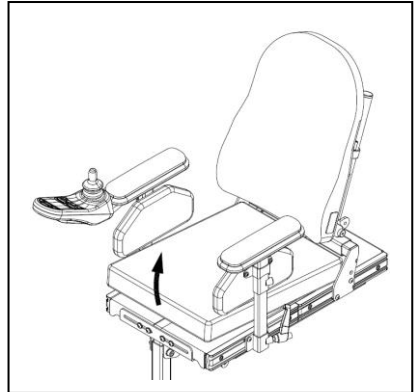

Figure 3.1
**Removing the seat cushion** (fig 3.1).